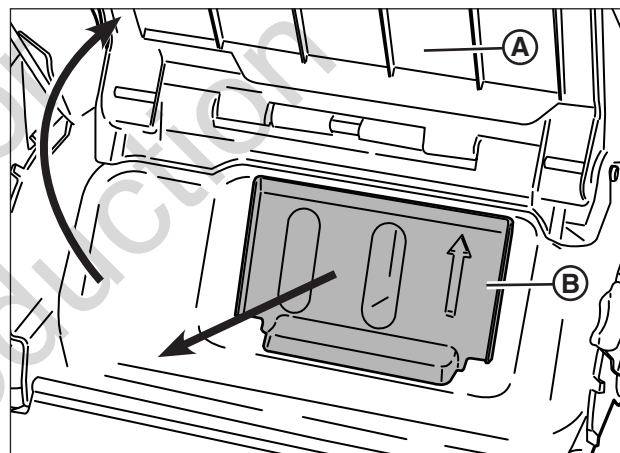

Figure 12: Removing the mulching plug
1. Raise the rear discharge door (**A**, **Figure 12**).